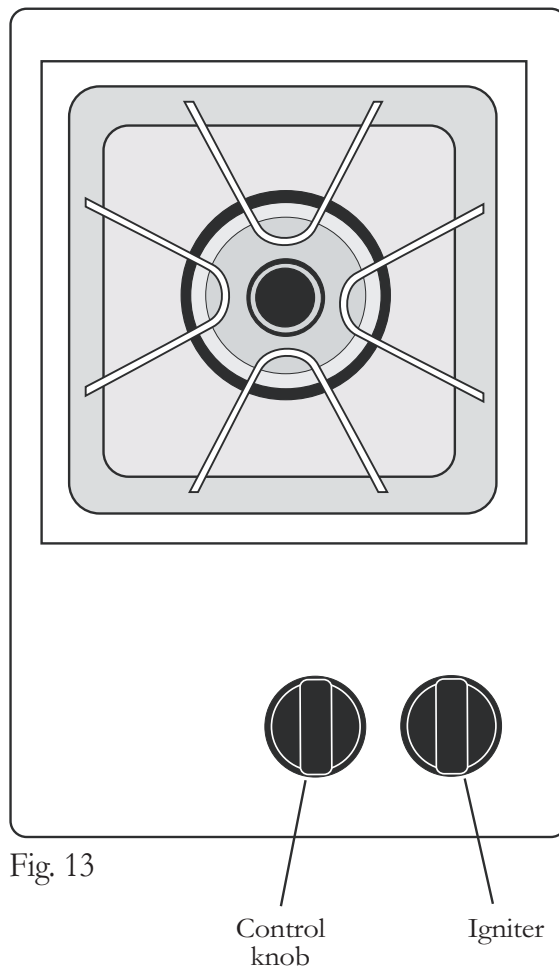

Fig. 13
1. Turn the side burner control knob to HIGH (see Fig. 13).